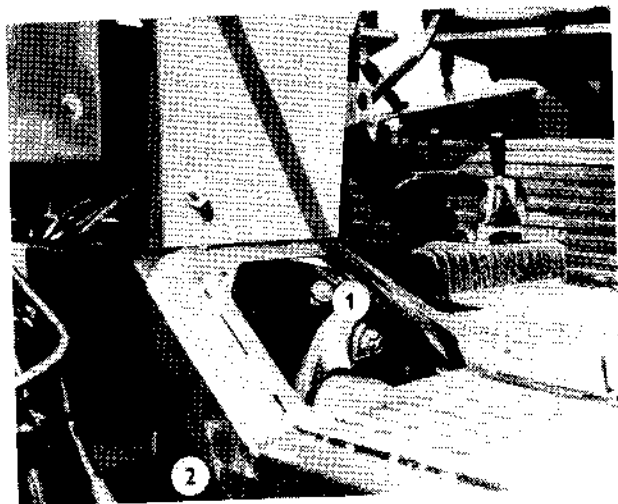

Fig. 9
10. Steering box oil filling hole (Fig. 9/1).